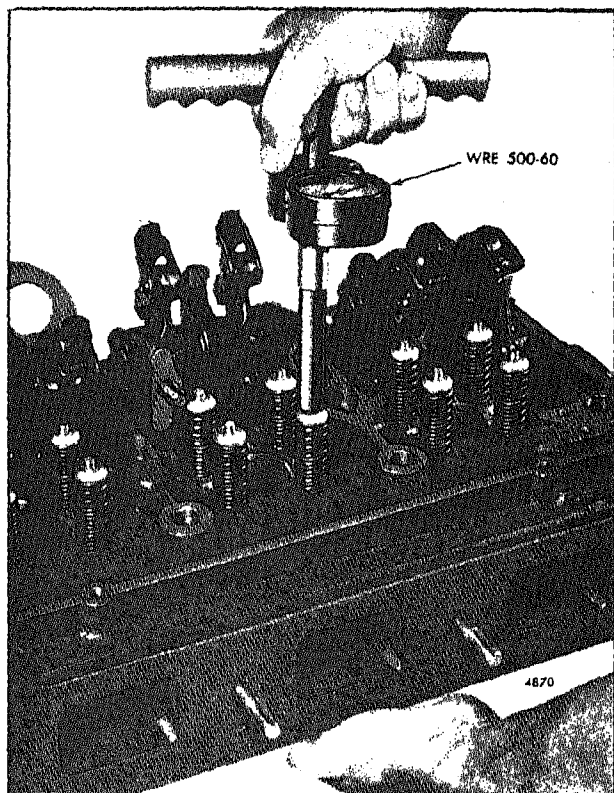

Fig. 16 · Checking Valve Opening Pressure with Gage WRE-500-60
10. With the exhaust valves installed in the cylinder head, use spring checking gage WRE -500-60 and note the gage reading the moment the exhaust valve starts to open (Fig. 16). The minimum pressure required to start to open the exhaust valve must not be less than 25 pounds